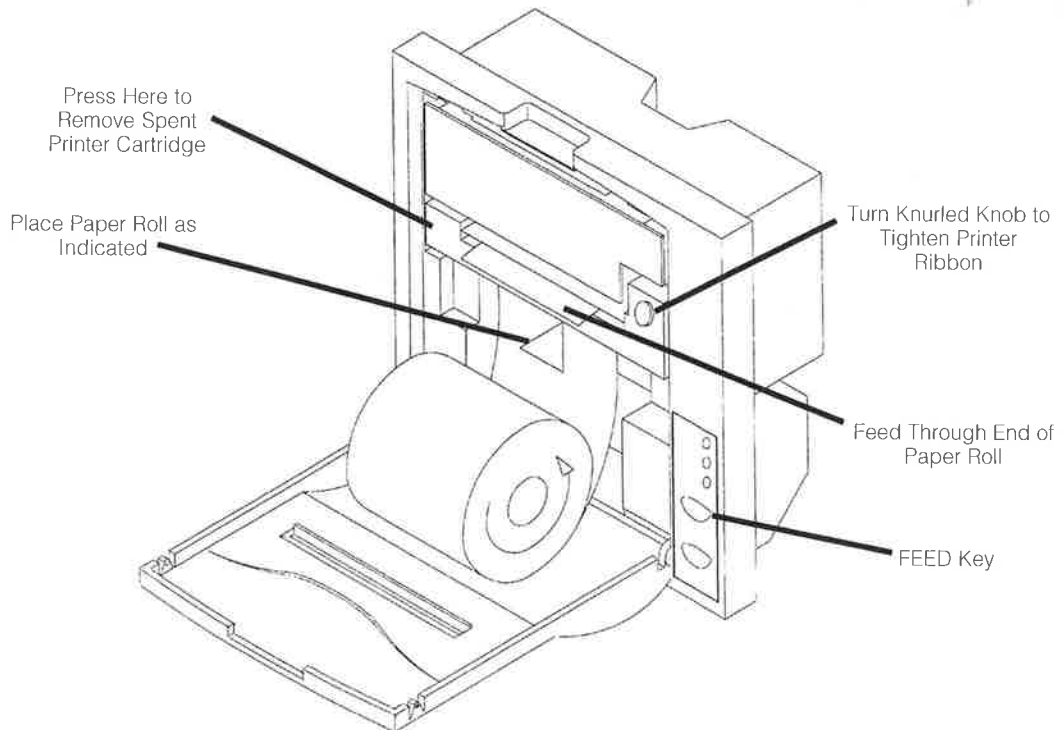

Figure 8-6. Change Paper for Mylox-style Printer
1. Open the top cover of the printer and place the paper roll in position, observing the direction of the arrow indicated in Figure 8-6.
2. Insert the end of the roll into slit of print mechanism (see Figure 8-6); paper auto-loads after a slight delay.
3. In cases where autoloading feature is not installed on the system, press FEED key (see Figure 8-6) so that a few centimeters of paper come out of the printer.
1. Open the top of the printer and remove the old ribbon cartridge by pressing down at point indicated in Figure 8-6.
3. Pull the ribbon tight turning the knurled knob (see Figure 8-6), then close the printer's top again.